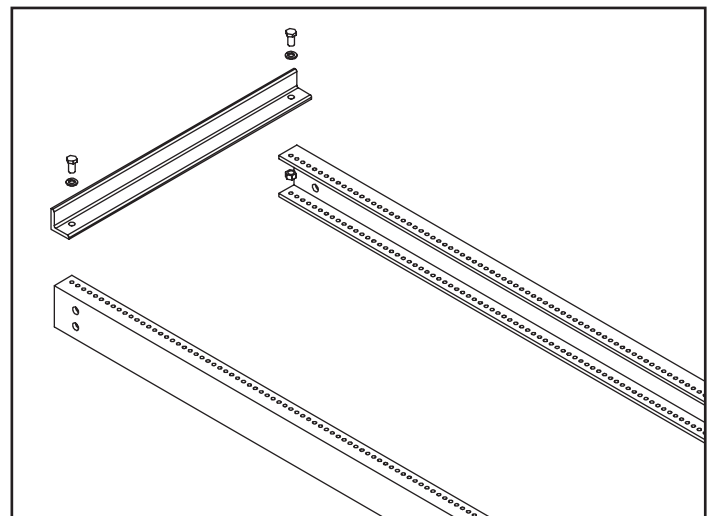

Figure 2 - Step #2
- Place top angle on vertical channels as shown in Figure 2. Align holes in base with 3/8" holes in vertical channels. Fasten to channels with four (4) hex head bolts, lockwashers, and hex nuts and tighten by hand.